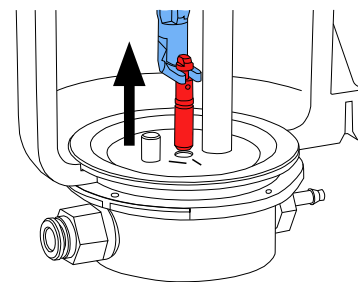

Fig. 16
- ⇒ Hold the dosing nozzle with the tool and pull upwards (Fig. 16).